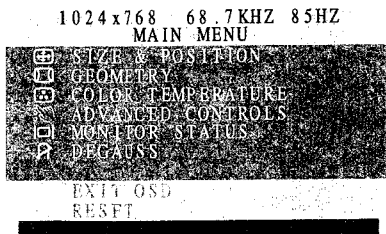
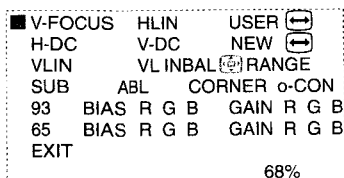
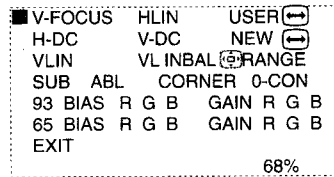

Fig. 2.1
Fig. 2.2
Fig. 2.3
Step 1: To select the character "FACTORY MODE" as shown in Fig. 2.1, press " " to access the OSD menu for R/G/B gain & cutoff as shown in Fig. 2.2.
Step 2: Press " " for function selection as shown in Fig. 2.3.
Step 3: Use " " to increase or decrease the value as shown in Fig. 2.3.
- : Press " " to show the OSD menu as shown in Fig. 2.1.
- : Select the character "FACTORY MODE" to access the R/G/B adjustment as shown in Fig. 2.2 and Fig. 2.3.
7.6 : Select the 6500K colour temperature as shown in Fig. 2.2.